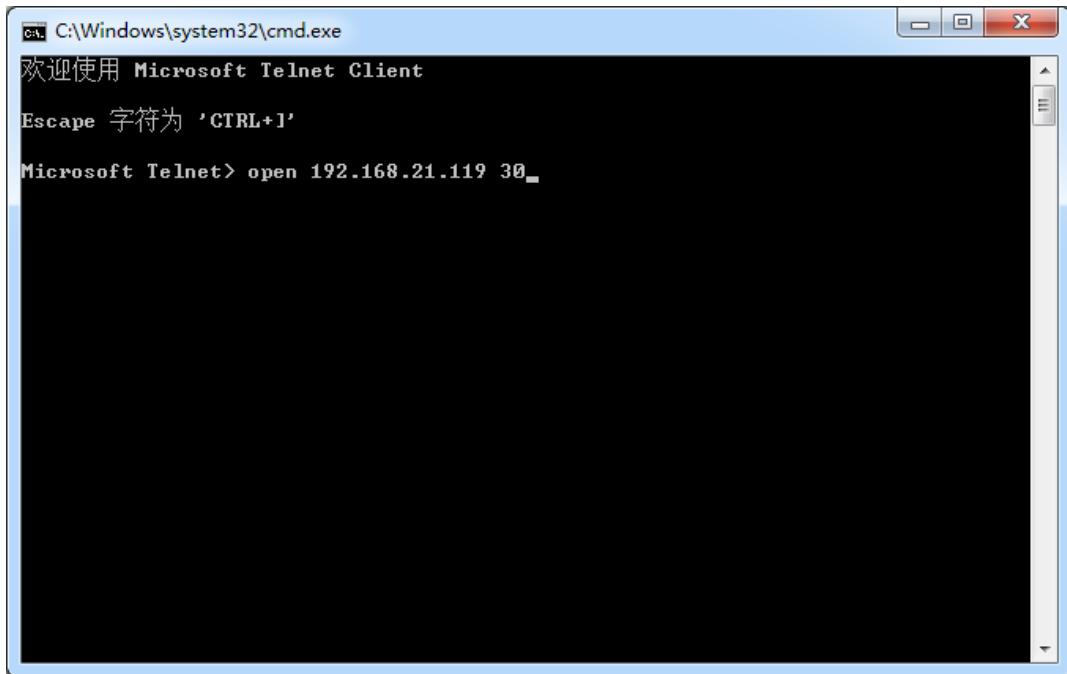

Figure 7-17 Telnet Client
- To establish connection, start the telnet client session by executing open_telnet.bat file and include the IP address assigned by the DHCP server-provided IP along with the port number as shown below in **Figure 7-17**.